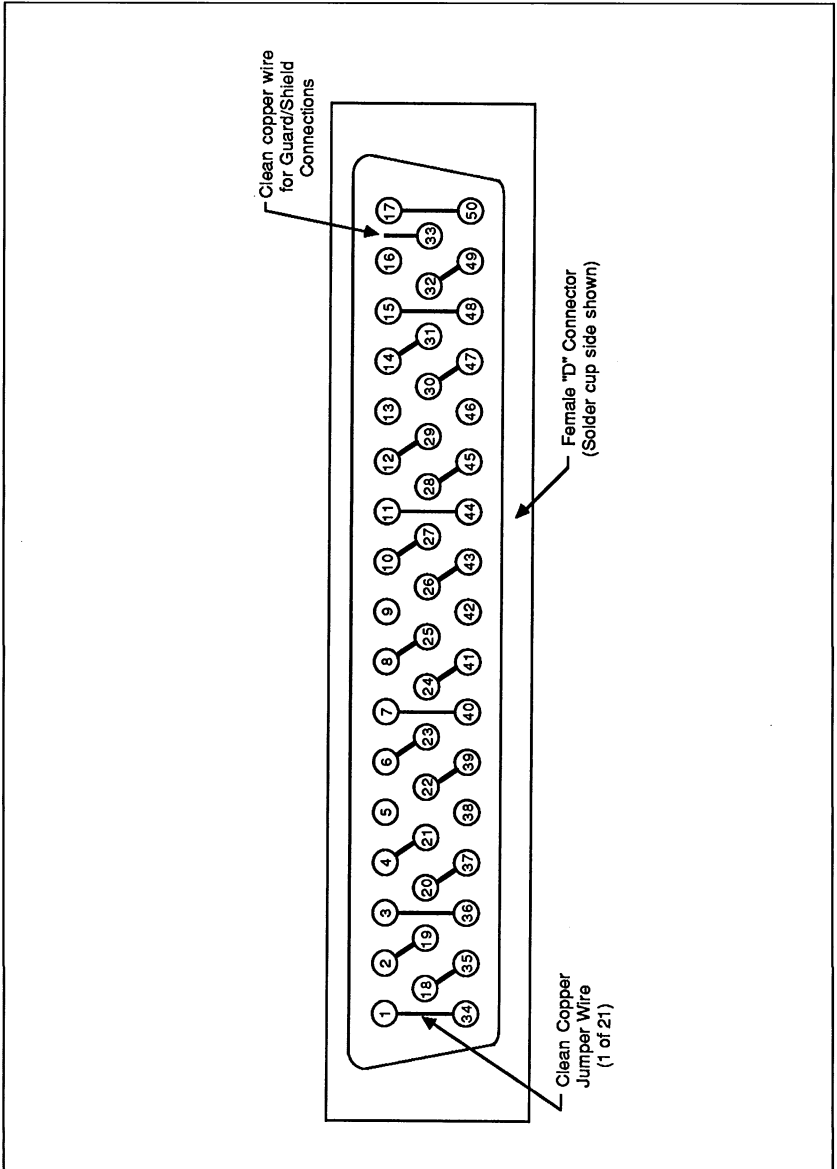

Figure 4-1. Female Connector Preparation for Performance Verification
1. Using clean #18-24 AWG copper wire, solder in 21 jumpers at the locations shown in Figure 4-1. Each jumper wire should be approximately one inch long.
1. Referring to Figure 4-1, cut the jumper connecting pins 17 to 50 in half.